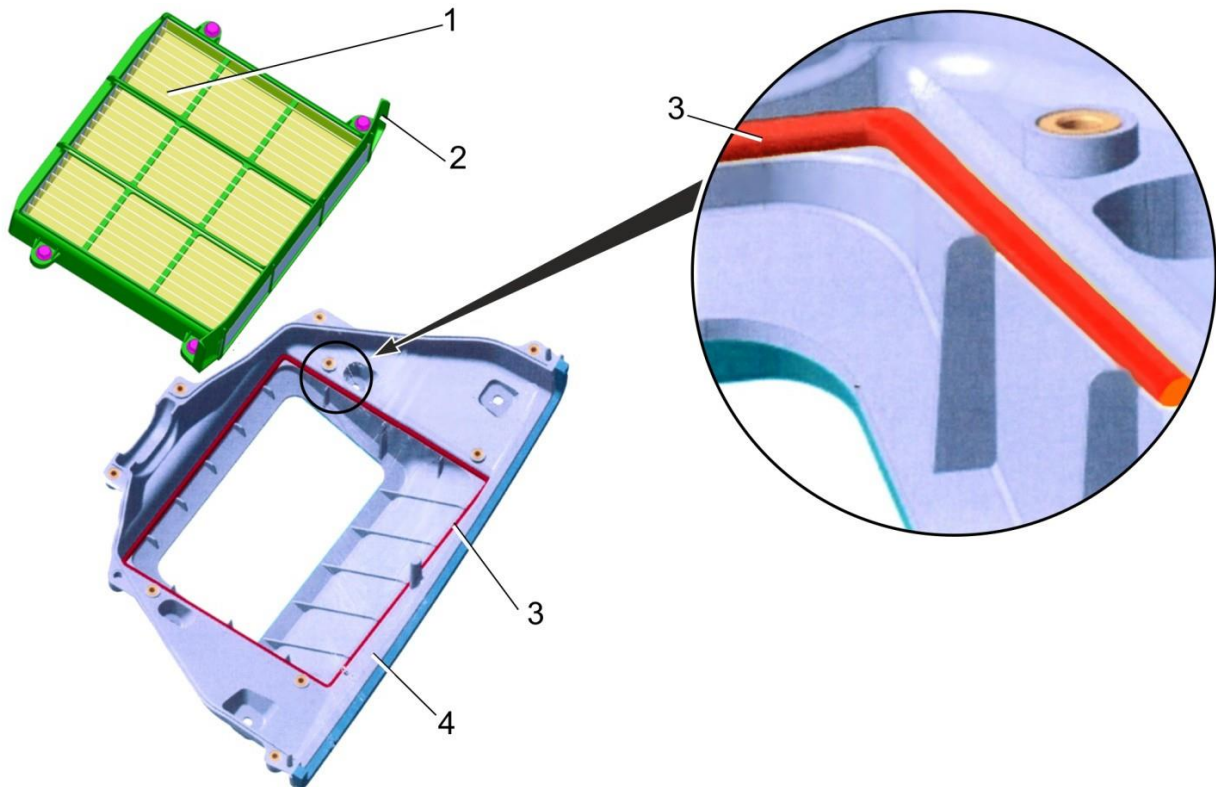

Fig. 8.51. Sealant application to rear air intake duct: 1 – filter, 2 – filter housing; 3 – adhesive sealant; 4 – rear air intake duct
- install a new filter in the housing after applying adhesive sealant Loctite 5900 (from Henkel) or Loctite 5699 (from Henkel) to the rear air intake duct along the contour of the filter housing installation position without breaks in a wide strip of 4-5 mm (Fig. 8.51);